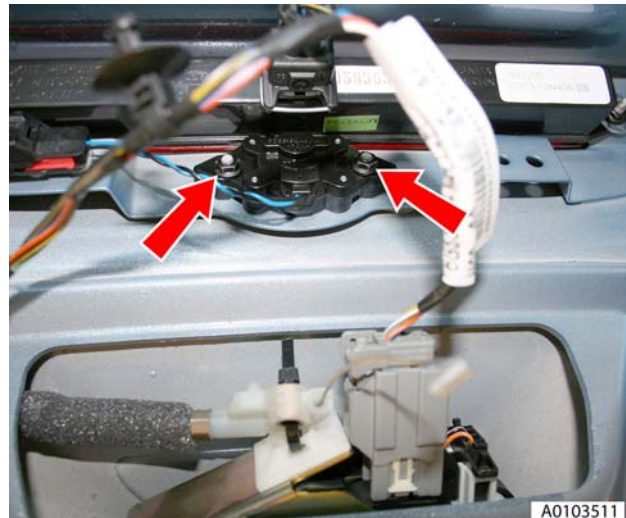

Figure 1
6. Remove nuts (x2) securing release switch to boot lid and remove switch (see Figure 1).